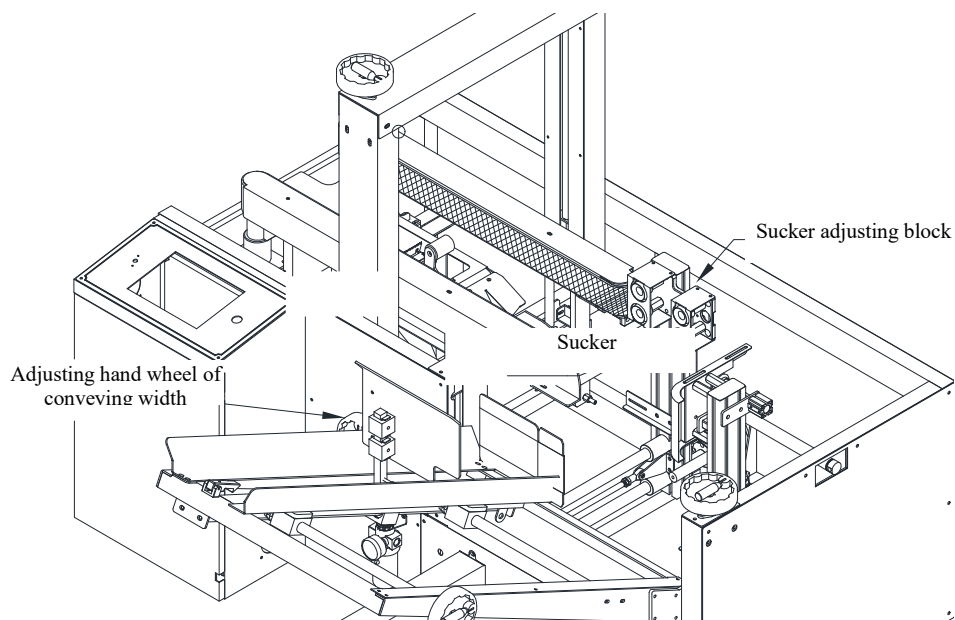

Figure 7
7) Adjust the sucker to a suitable location according to the carton size. As shown in Figure 7: